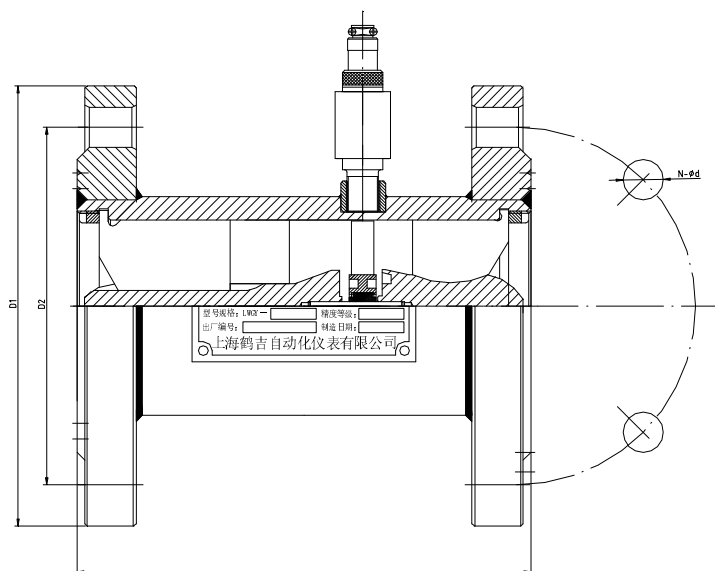

Fig. 4-2 DN40 to 300 external dimensions
b). DN40 to 300 as Fig. 4-2 and Table 4-2